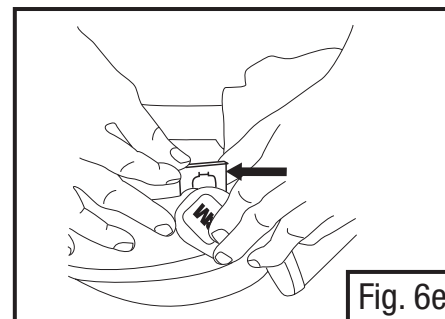

Fig. 6e
- Line up visor frame over attachment slots and slide spring into place. With the post and back plate engaged, the visor frame should be in the fully open or fully closed position before the spring is installed (Fig. 6e).